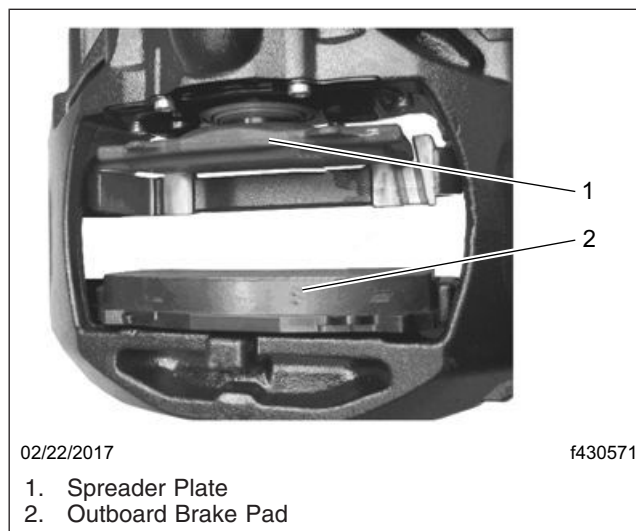

Fig. 3, Installing the Outboard Brake Pad
12. Reinstall outboard-side brake pad. See Fig. 3. Push the brake caliper toward the brake chamber side until the brake pad of the rim side bears against the brake disc.